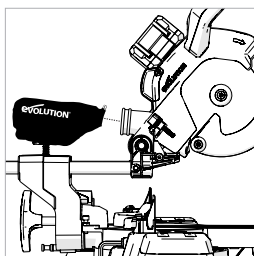

Fig. 50
- Slide the Dust Bag over the dust extraction port, ensuring that the spring clip grips the port holding the Dust Bag securely in place. (Fig. 50)